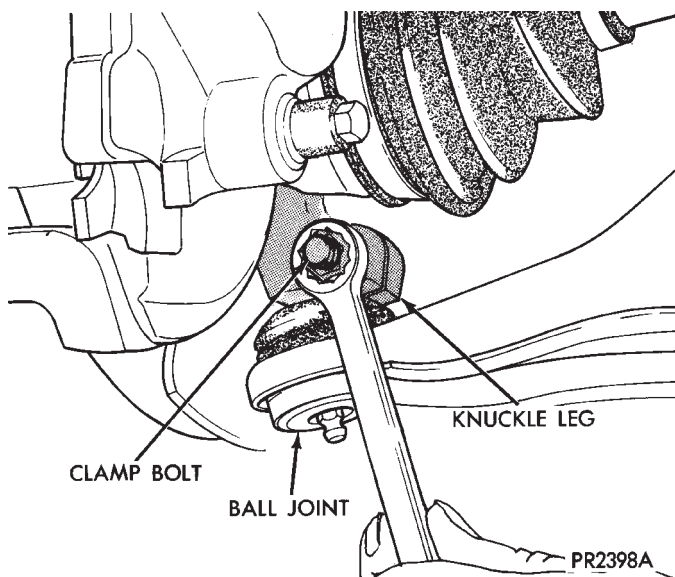

Fig. 7 Remove Ball Joint to Steering Knuckle Clamp Bolt
- (2) Remove clamp bolt securing ball joint stud into steering knuckle (Fig. 7).